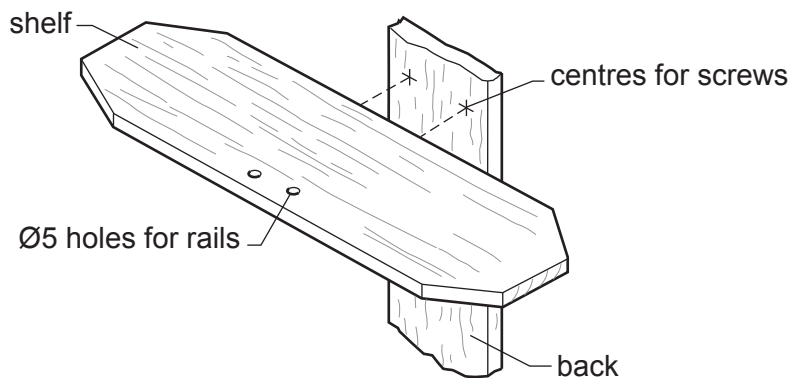

Fig. 12.2
- (a) The back will be screwed and glued to the shelves. Fig. 12.2 shows an exploded view of one shelf and part of the back, showing the positions for the screws.